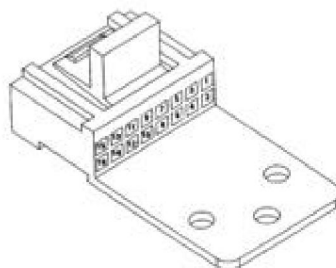

Figure 1. Accessory Connector, Rear View
The following is a description of the pin functions on the Expanded Accessory Connector for the 8- and 16-channel radios. Refer to Figure 1, for pin locations in the connector housing.
2. Insert the terminal into the desired housing location, with its locking tab facing down toward the strain relief tab. Refer to Figure 1, for pin locations.